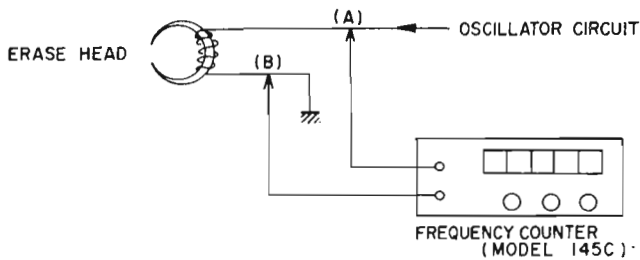

Fig. 12
1. RECORDING BIAS FREQUENCY ADJUSTMENTS (See Fig. 12)